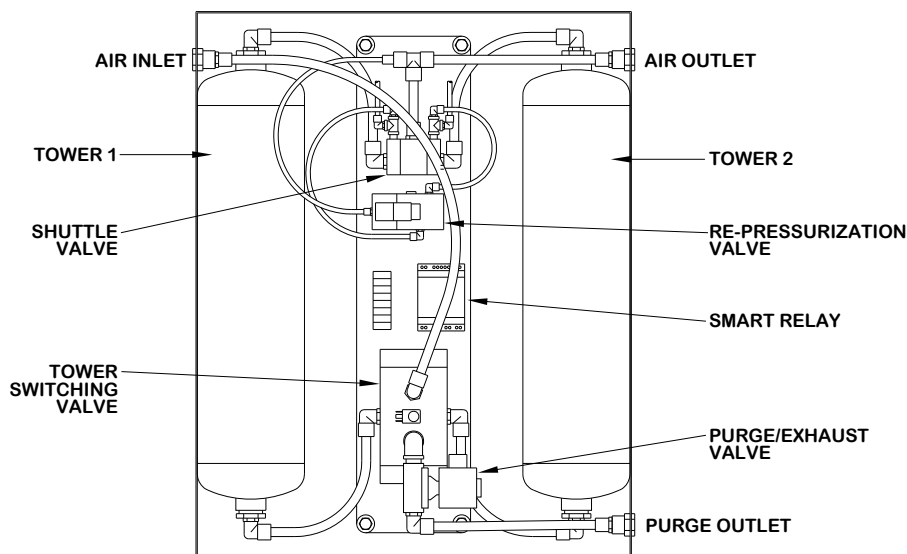

FIG. A.3.1 Desiccant Dryer Assembly
2. Remove front panel from cabinet (See FIG A.3.1).